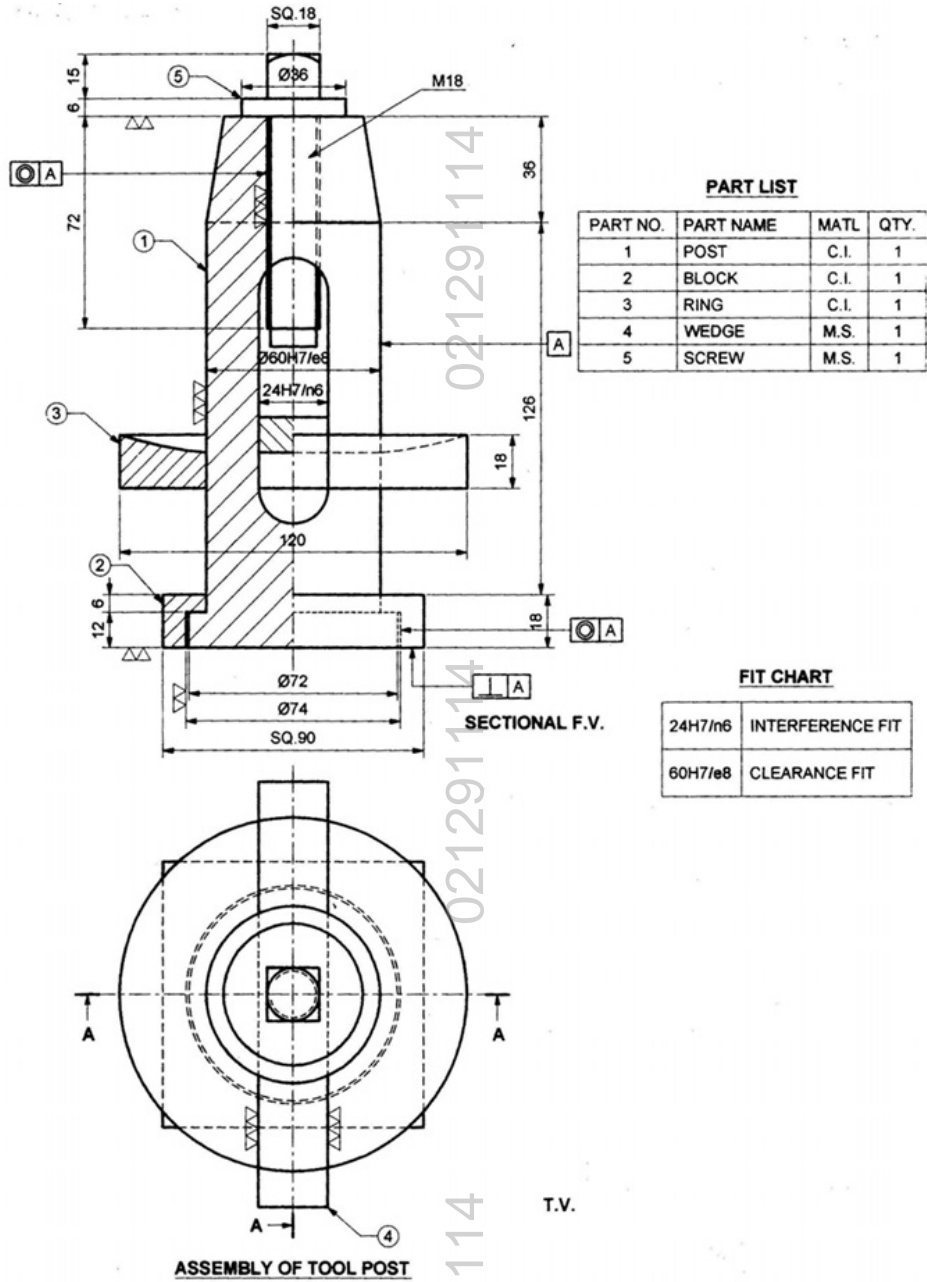

Fig. No. 3
- A) Fig. No.3 shows the assembly of a Lathe Tool Post. Draw the following details providing dimensions and tolerances